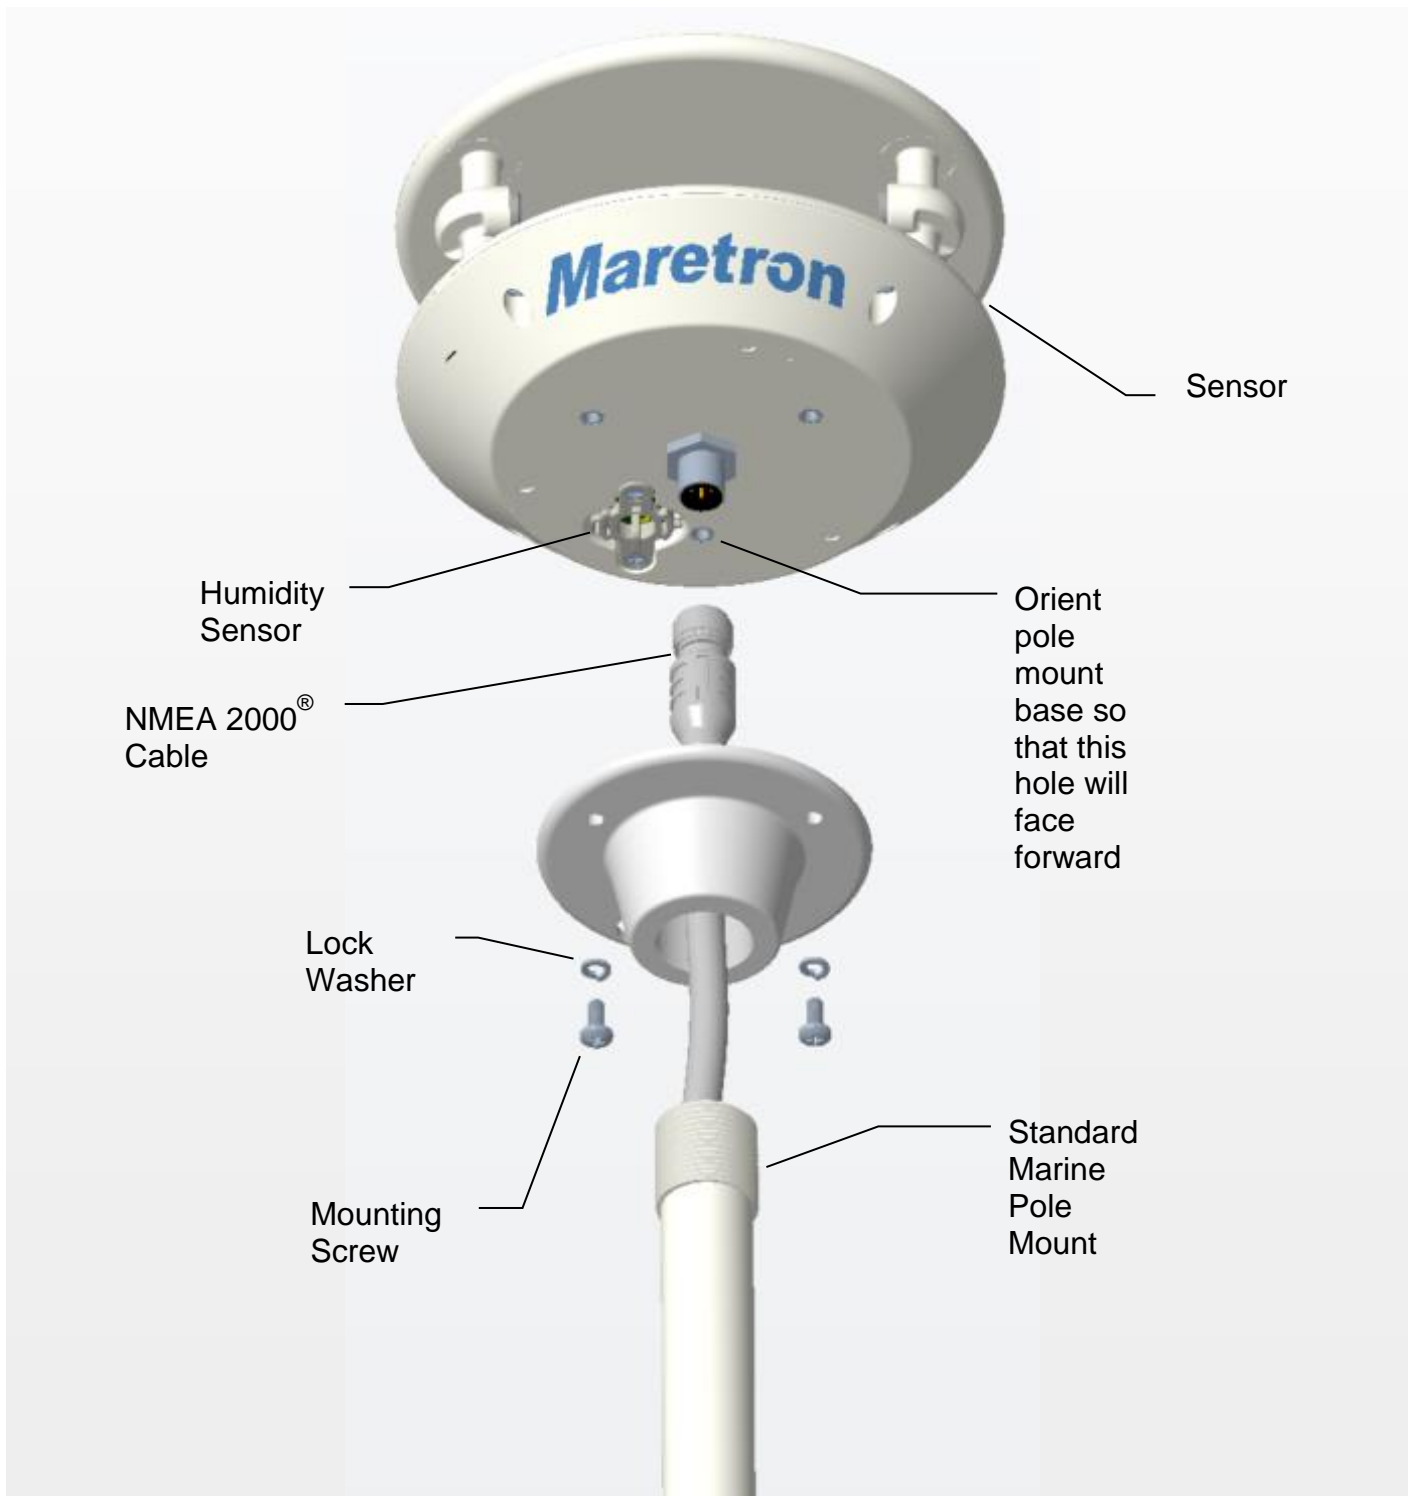

Figure 1 – Mounting the WSO200 to a Standard Marine Pole Mount
Route the NMEA 2000® cable through the standard marine pole mount and the pole mount base and connect it to the WSO200 unit (see Section 2.4 below). Finally, attach the WSO200 to the pole mount base using the included brass mounting screws and lock washers as shown in Figure 1. Do not use threadlocking compounds containing methacrylate ester, such as Loctite Red (271), as they will cause stress cracking of the plastic enclosure.